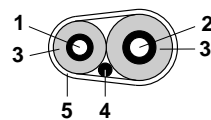

Fig. 29
- Remove the lower frontplate (1), punch a hole in the knock hole and cut the hole (2) all the way to the slit.
- Attach the 3 sealing pads (optional parts) (3) on the wiring mounting plate (optional parts) (4) corresponding to the overlapped area of the front plate.
- Pick the transmission line from the middle positioned conduit hole on the left side plate, or from the front position of the main unit (after binding it to the piping with finishing tape as in figure 29).